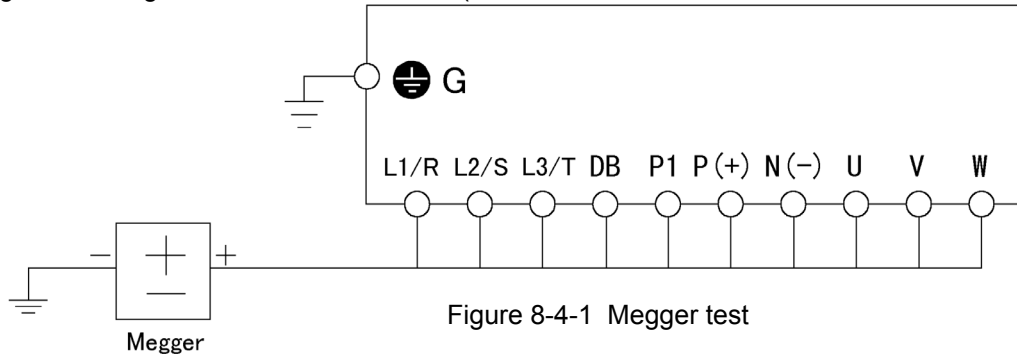

Figure 8-4-1 Megger test
- 3) Connect the main circuit terminals using common cables as shown in Fig. 8-4-1.